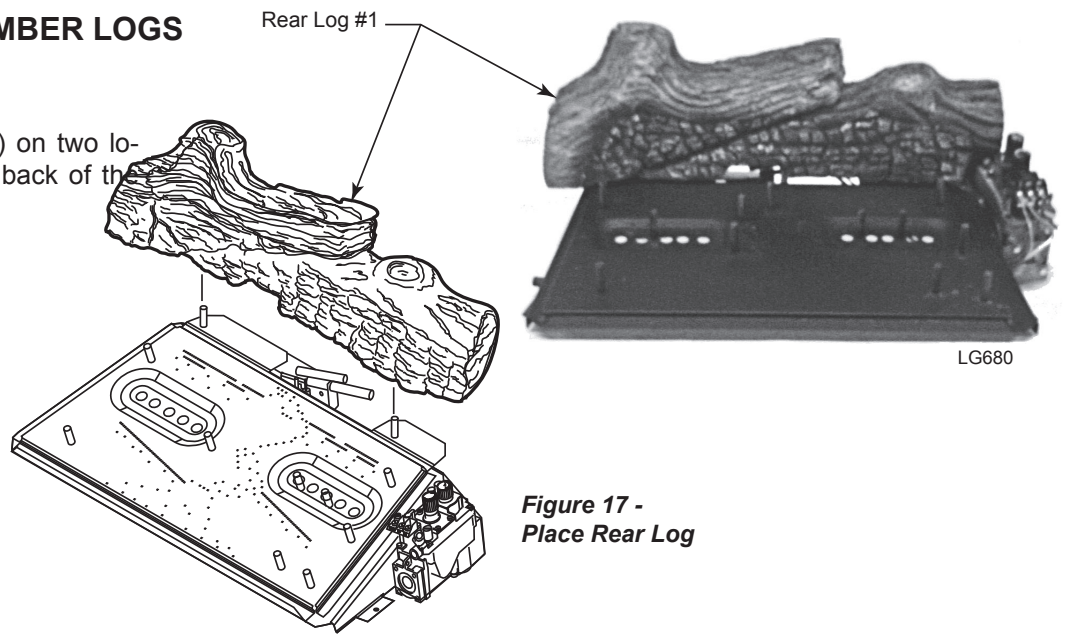

Figure 17 - Place Rear Log
- 1. Place rear log (#1) on two located pins on the back of the grate. *Figure 17*